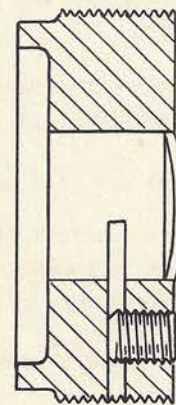
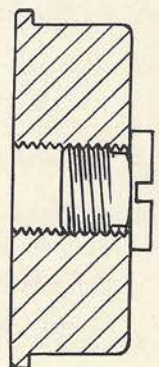

Fig. 17
Fig. 18
The gear shafts are mounted on adjustable Timken Bearings. These are adjusted by means of the threaded collars in the headstock. The collars, Fig. 17, are locked by tightening the set screw. The shafts should run free and without drag, but there also should be no lost motion.
2. Unscrew the adjusting collar, Fig. 17.
3. Remove the center screw in the non-adjustable collar at the opposite end of the shaft, Fig. 18.
It will be necessary to insert spacers, cut to measured length from cold rolled steel stock, to hold the gears and the Timken race in their proper places while the shaft is being pushed through them. The actual pressure is best exerted by means of a screw fitting the inside thread of the plug, Fig. 18. It is also possible to advance the shaft by inserting a bronze rod through the tapped hole in the plug, and striking the end of this rod with a hammer.
On the gear shaft immediately beneath the pulley shaft, this latter method is the only one possible because there is no plug similar to Fig. 18 in this shaft assembly, both ends having plugs like Fig. 17.